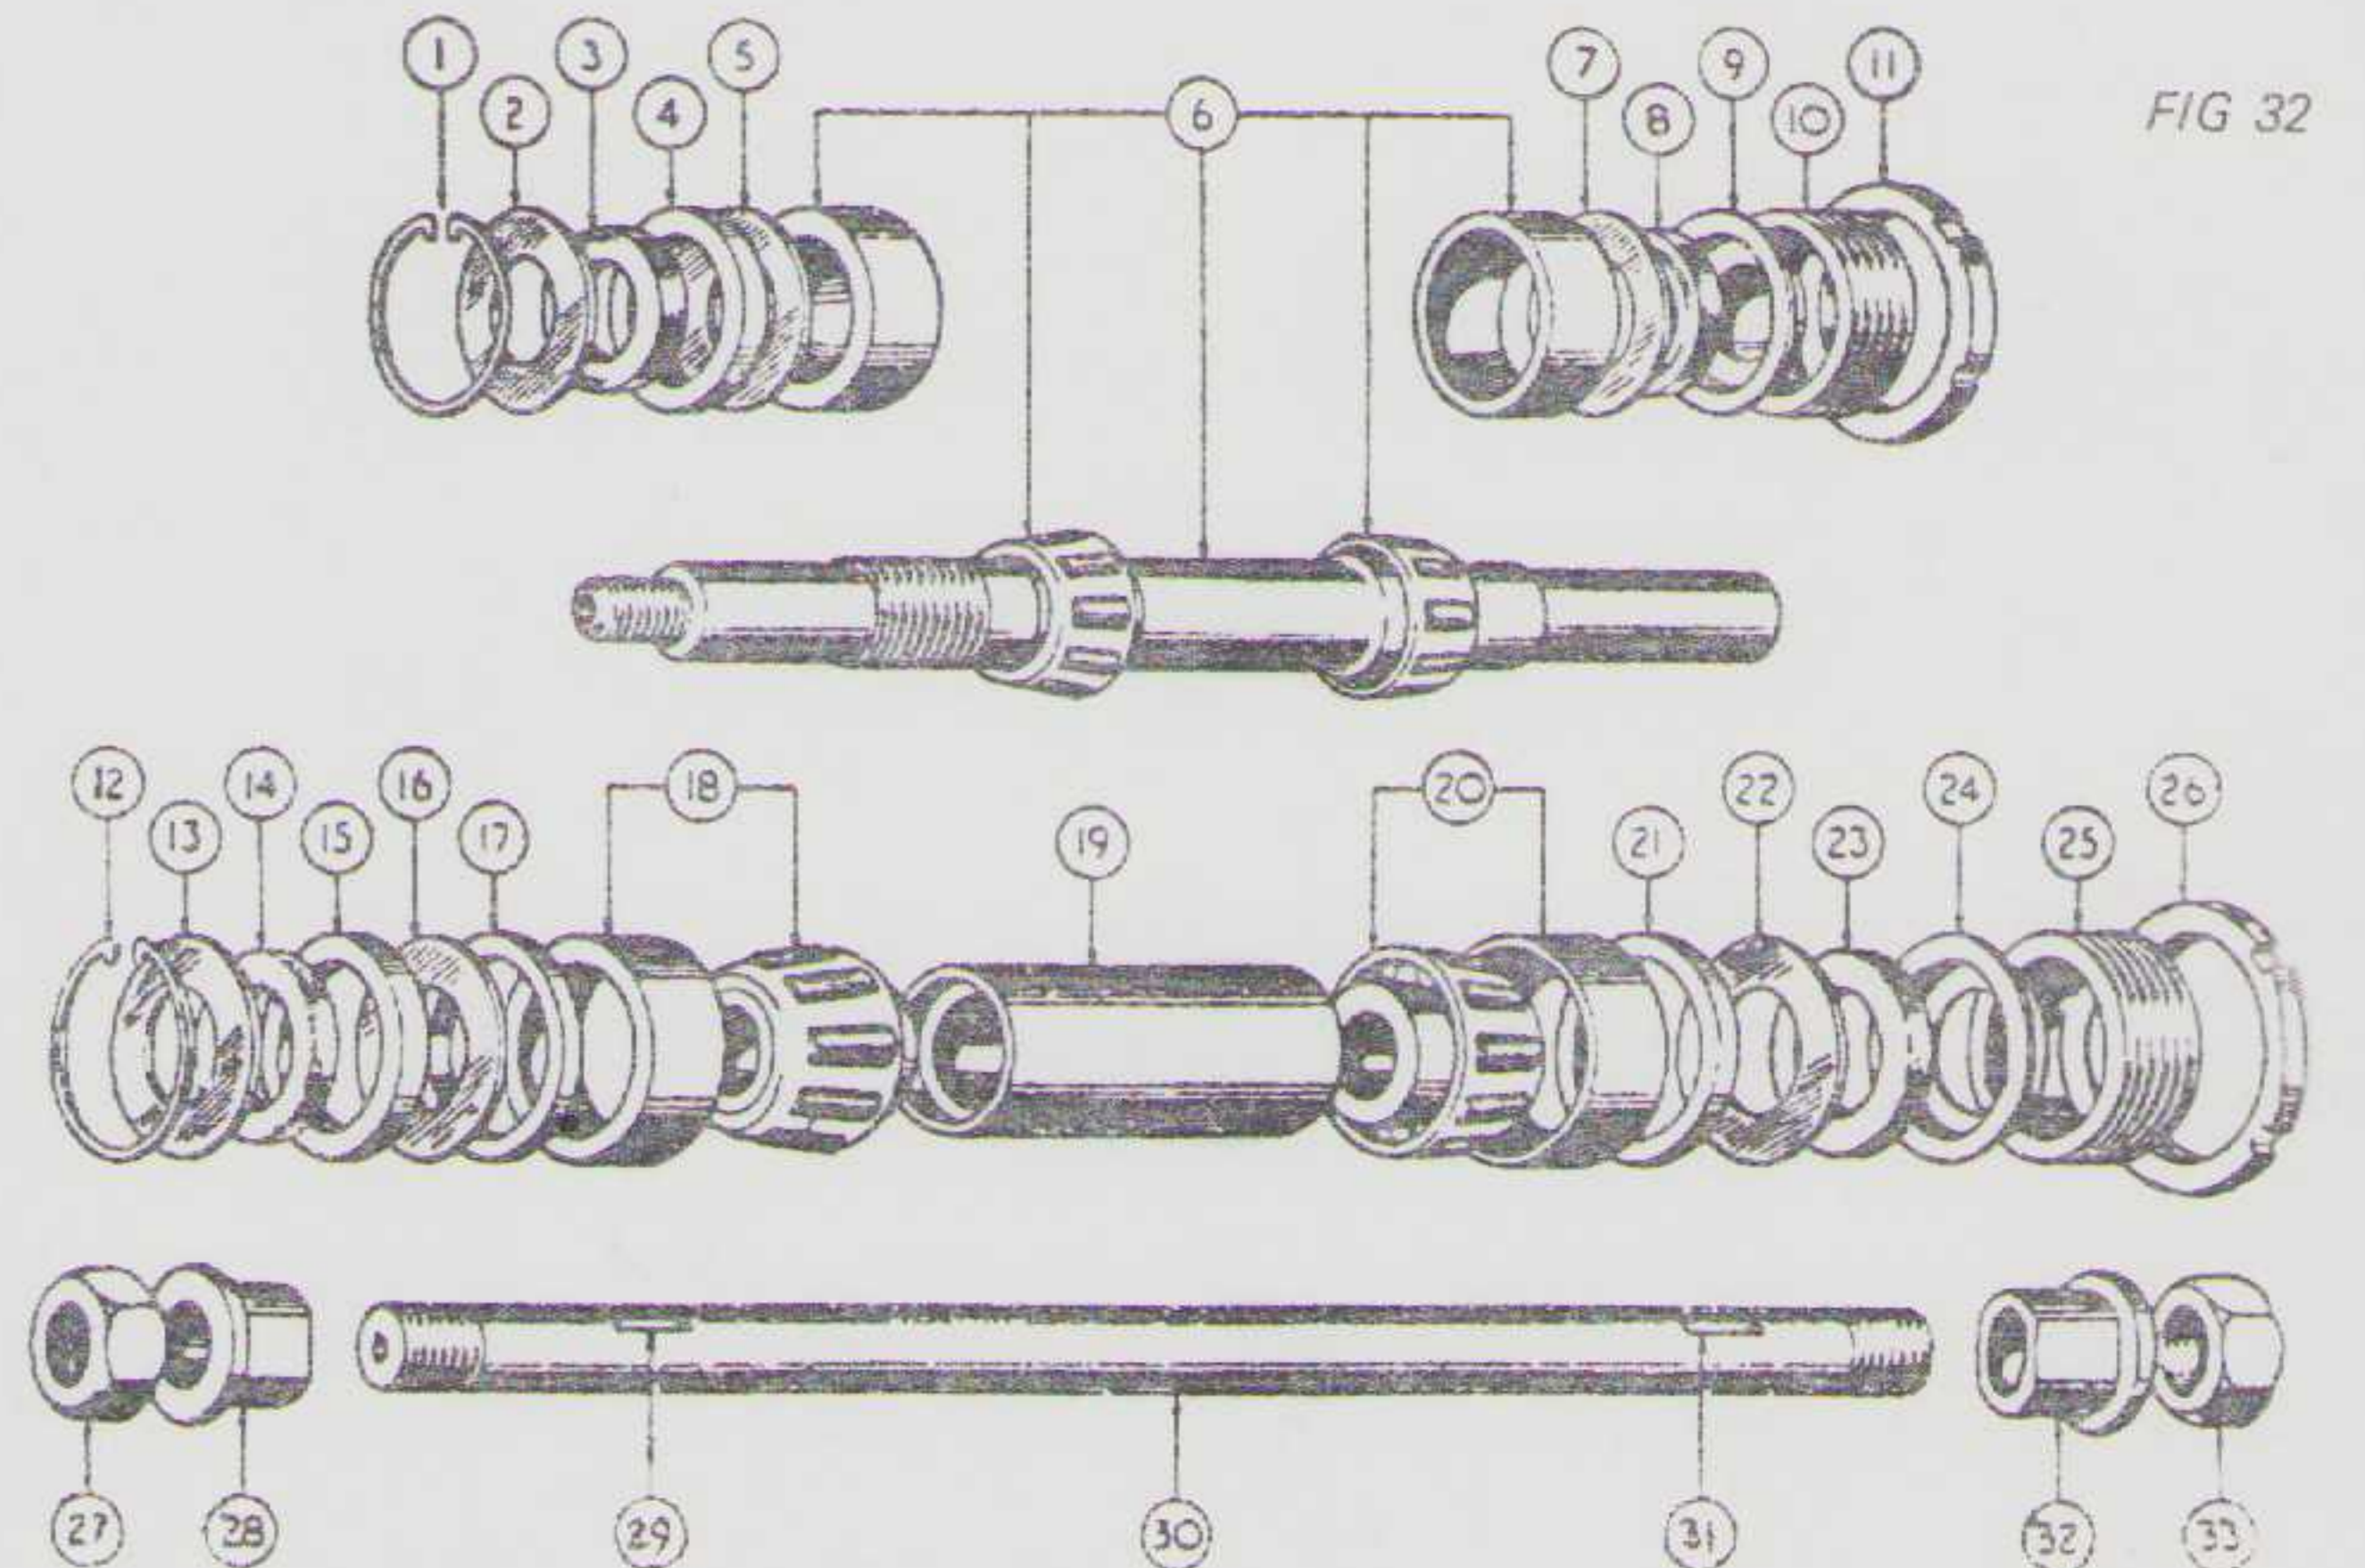

FIG 32
Remove nuts and brake cover plate complete. Slacken Fig 32's locking ring (11). Unscrew the adjusting ring fully (10) and remove with locking ring (11) *in situ*. Apply firm pressure to the threaded end of the spindle, so removing from the other end the cup housing (9) for the oil seal, the oil seal itself, the metal washer (7) behind the oil seal and then the outer cap. The front wheel spindle (6), with two sets of rollers, may now be removed from the hub.
In spring-frame models remove brake cover plate, brake shoes, centre spindle with cams, bushes, spacers, nut and speedometer gearbox. Remove the lock nut (see Fig 32's lower part) (26) on the left-hand side and unscrew the adjusting ring (25) completely, removing this with the lock nut *in situ* (26).